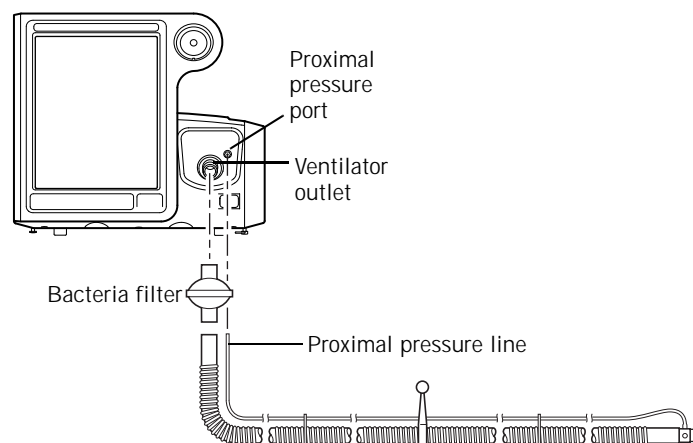
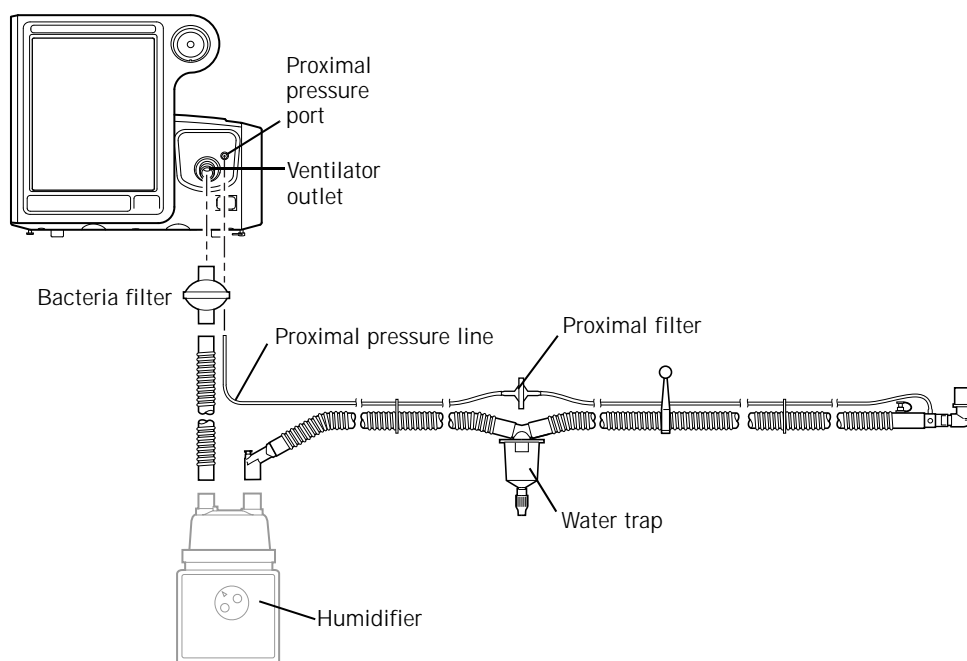

Figure 5-2: Noninvasive patient circuit, without humidification
Figure 5-3: Invasive patient circuit, with humidification
Figure 5-2 and Figure 5-3 show circuit configurations for noninvasive
1. Connect ventilator to AC power and the oxygen supply. Assemble the patient breathing circuit.	Breathing circuit is assembled correctly. See Figure 5-2 on page 5-3 or Figure 5-3 on page 5-3.